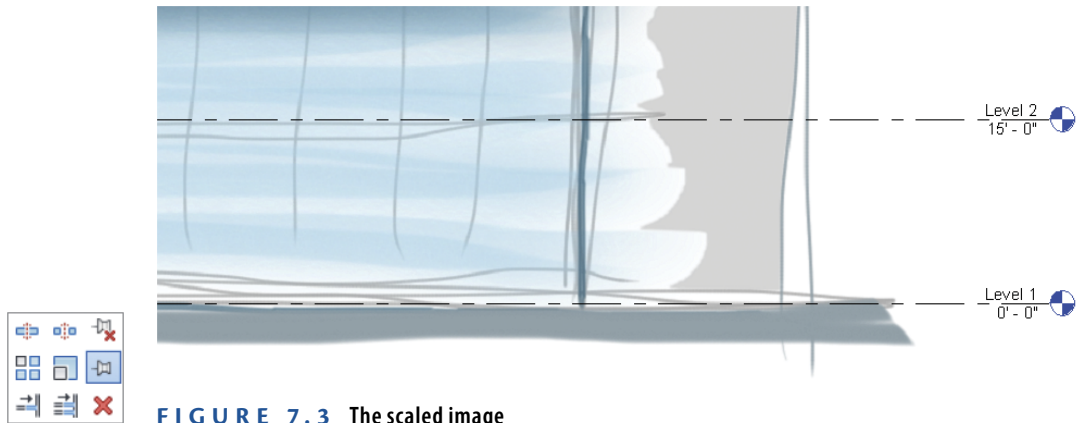

FIGURE 7.3 The scaled image
5. The image is a bit out of scale for the Revit model. Select the image and choose the Scale tool from the Modify panel. Refer to Figure 7.3 for the eventual goal.
8. Finally, move your mouse straight down so the cursor aligns with Level 2 of the model; then click. This is the model reference point. After this last click, the image scales to look similar to Figure 7.3.